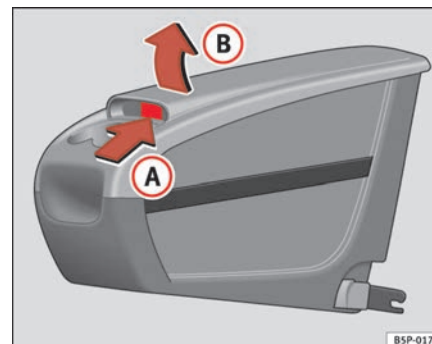

Fig. 114 Mobile stowage compartment Opening
- Lift the cover **(B)**, in area **(A)** ⇒ page 141, fig. 114.